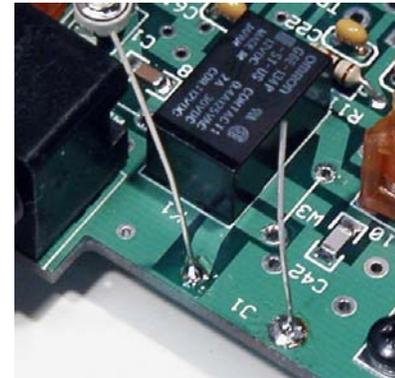

Figure 38. J1 Solder Pads on RF Board.
□ Solder the two clipped leads you saved when you installed D5 (Page 31) to the J1 solder pads on the RF board. The J1 pads are near K1 (see Figure 38).